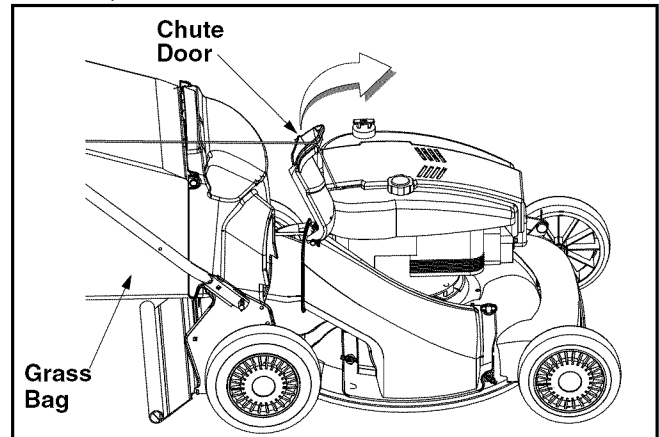

Figure 7
- Lift chute door on the grass bag adapter and slide grass bag onto the adapter. See Figure 7.